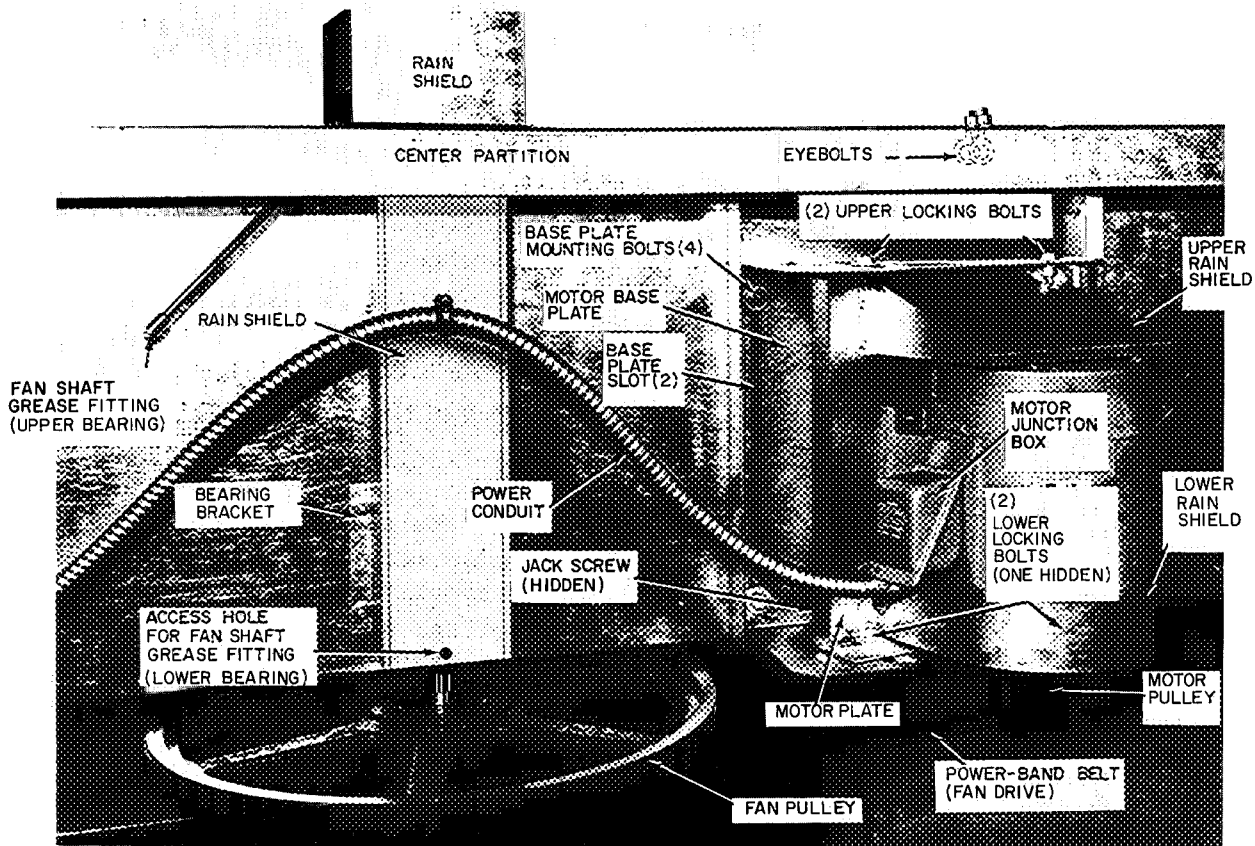
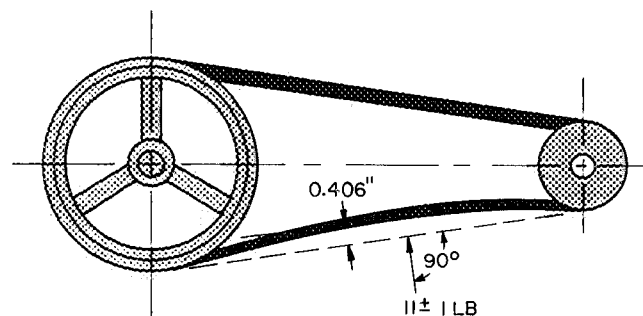

Fig. 5 – Fan Motor and Drive (Fan Motor No. 2 Shown)
Fig. 6 – Belt Tension
Fan Motor Removal (refer to Fig. 5) – Before starting, be sure power to the unit is disconnected. Remove the lower screen panels on the side opposite the cooler. Viewed from this side, fan no. 2 is on the left and fan no. 1 is on the right. Fig. 5 shows motor and drive for fan no. 2.
Belt Tension Adjustment (Fig. 5 and 6) – Loosen the upper and lower motor-locking bolts. With the jack screw, adjust the belt tension to 11 lb at .406-in. deflection as shown in Fig. 6, using a standard belt-tension gage. Tighten the upper and lower motor-locking bolts.
Fan Shaft Bearing Lubrication (see Fig. 5 and 7 for location of grease fittings) – Bearings should be lubricated every 4 months. Use Texaco Regal AFB-2 (Carrier Specification PP80-15). Both the upper and lower bearings can be greased from below. Feed the grease slowly until it starts to come out at the bearing seals.
Fan Shaft Removal and Installation – To remove the shaft, proceed as follows (refer to Fig. 5 and 7):
3. Loosen the motor locking bolts and back off the jack screw behind the motor (see Fig. 5) to relieve belt tension. Remove the belt.